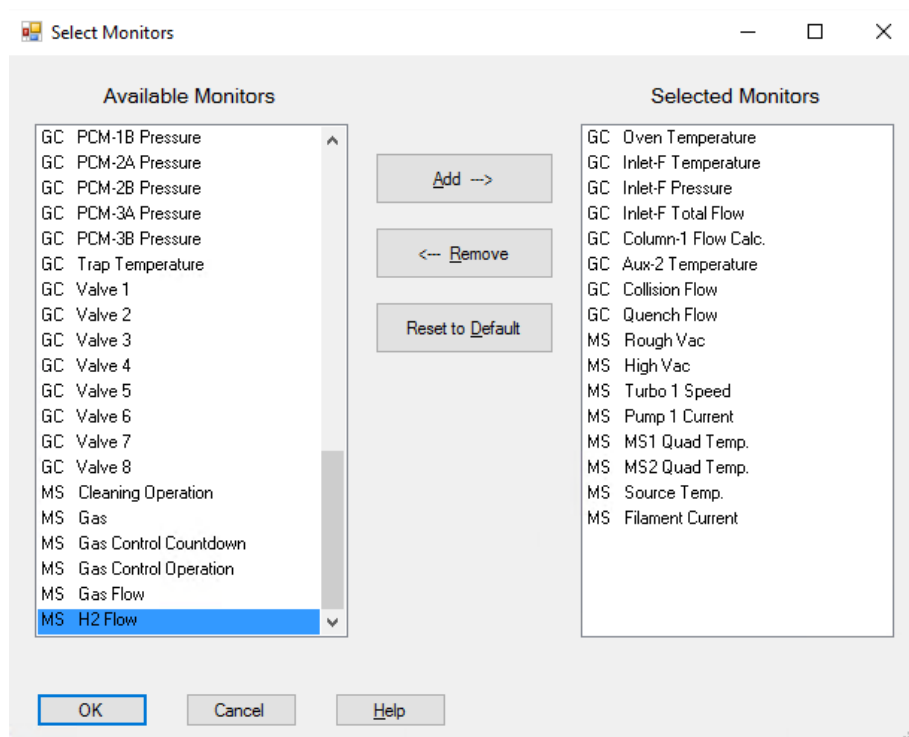

Figure 26. Select Monitors dialog box
- 1 Select **Instrument > Edit Monitors** to display the **Select Monitors** dialog. (See Figure 26.)